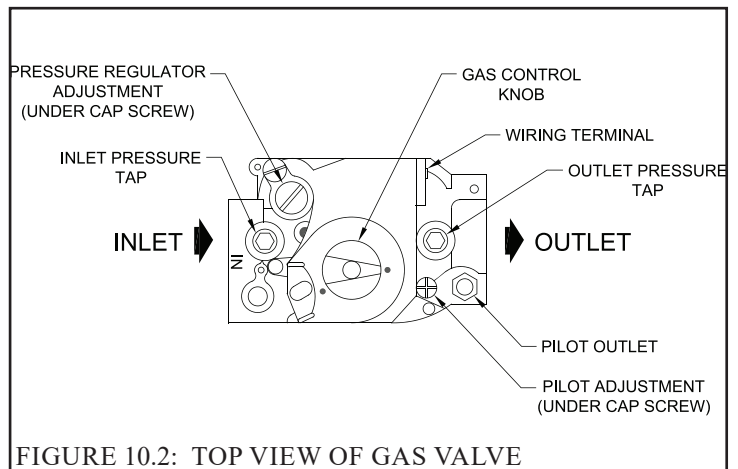

FIGURE 10.2: TOP VIEW OF GAS VALVE
a) Connect a manometer to the inlet pressure tap on the gas valve (see Figure 10.2).
d) Connect a manometer to the manifold (outlet) pressure tap on the gas valve (Figure 10.2).
f) If a manifold pressure adjustment is needed, make the adjustment by turning the regulator screw (see Figure 10.2) clockwise to raise the pressure and counter-clockwise to reduce the pressure. If a manifold pressure adjustment is made, recheck the inlet pressure after making the adjustment to be certain that it is still within acceptable limits. Replace the cover screw on the regulator.